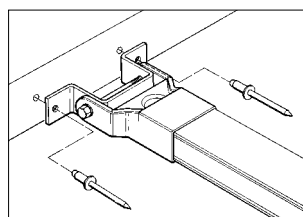
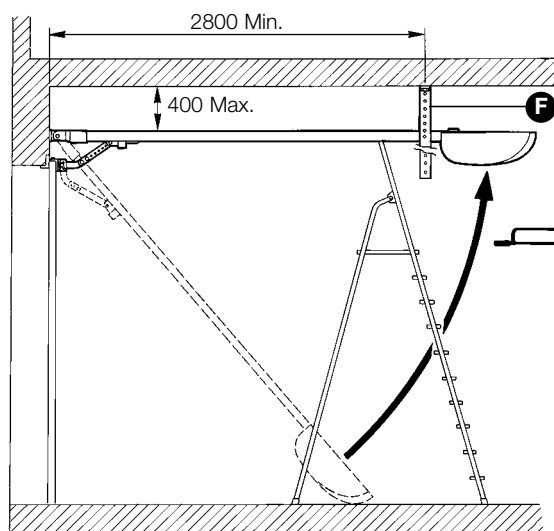

Fig. 18
Fig. 20
5 Fix GDS to the door frame or to the wall with rivets and anchors (Fig. 18) maintaining a distance of 30 mm from the door's maximum travel. Check the drilling measurements. Insert and secure the support brackets (F) and fasten the GDS to the ceiling (Fig. 20). Cut away any excess on the brackets.